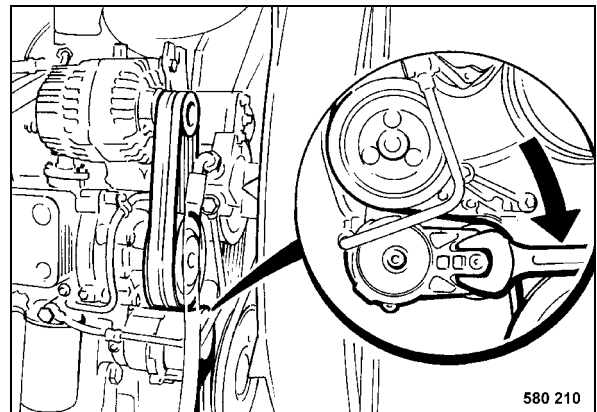

Fig. 157
- Release the idler pulley (Fig. 157) in direction of arrow until the ribbed V-belt is free.